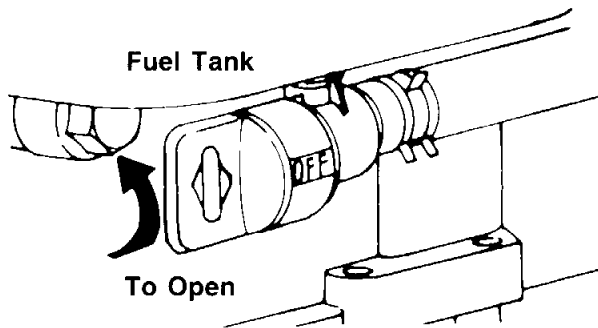

FIGURE 16.—Model 12872 Only
3. **Model 12872 Only:** The fuel shut-off valve is located beneath the fuel tank. The fuel shut-off valve should be in the open position. See figure 16. Open fuel shut-off valve if it is closed.